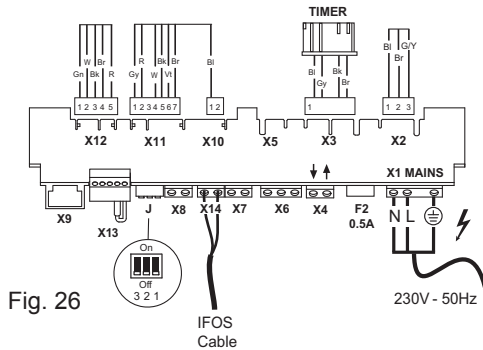

Fig. 26
3. Connect the IFOS cable to the grey T-OUT connector (X14 Fig. 26). There is no polarity. Refit and secure the cover.